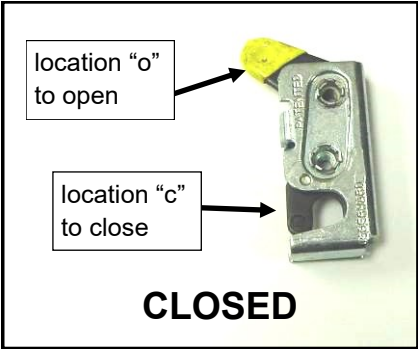

Fig. 3.5 (latch shown closed)
3.5 Tip: removal of any component that has latches can be made easier for a single person if the latch is opened to disengage the receiving pin then manually closed as shown in fig. 3.5 so the weight of the component does not cause the latch to continually re-engage on the receiver pin when you try to work the opposite side of the vehicle by yourself. Push at location “c” to close and pull at location “o” to open. Be sure to open latches before re-installing.